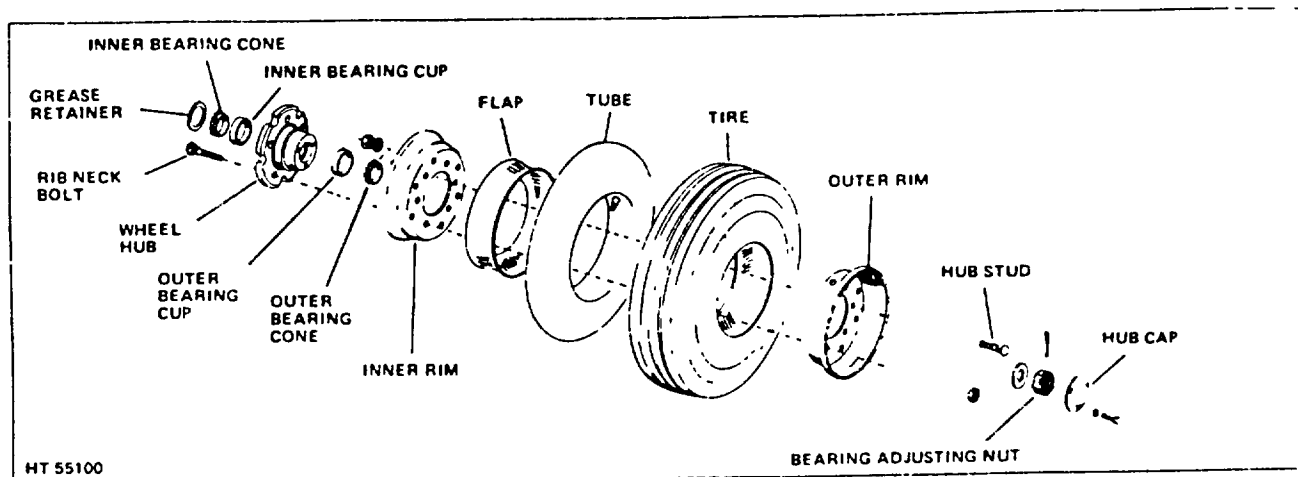

Figure 12. Steer Wheel Assembly (Pneumatic Tire)
2. Remove the nuts and lockwashers attaching the rims to the bolts in the wheel hub. (See Figure 12.)
2. To remove the steer wheel tire, tube and flap, remove the (6) six bolts, nuts and lockwashers (inside the inner rim) and separate the inner and outer rims. (See Figure 12.)